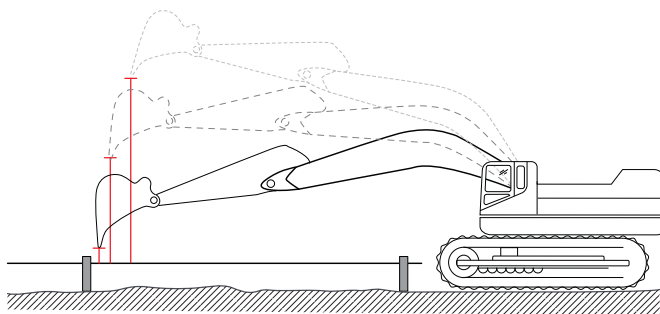

Figure 70: String Line Verification - Boom
3. Curl only the boom in and out at various positions, and measure the distance from the string line to the bucket teeth with a measuring tape (Figure 70).